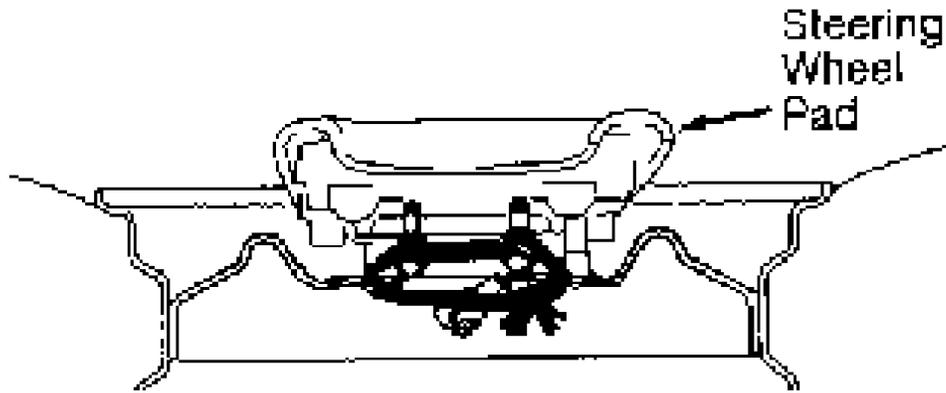

Fig. 3: Installing Steering Wheel Pad On Wheel Assembly
5) Position steering wheel pad on wheel rim and tire assembly with pad side facing upward. Ensuring wire is tight, separately tie left and right sides of steering wheel pad to wheel rim through lug nut holes. See Fig. 3.